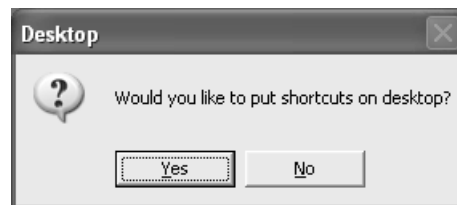

Figure 1-9. Desktop Shortcut Prompt Screen
6. The next prompt gives the option to install a short-cut for LaserNET on the desktop (Figure 1-9). Click on either **<Yes>** or **<No>**.